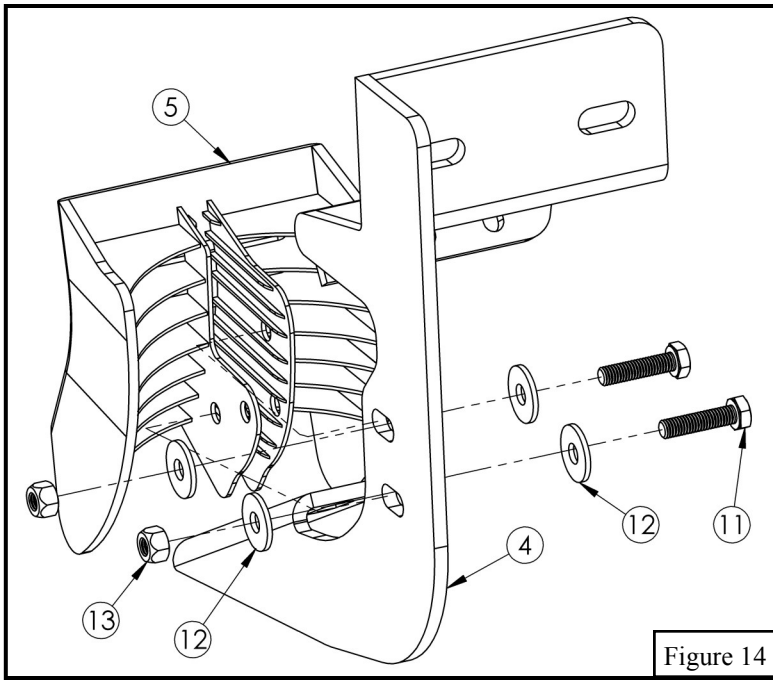

Figure 14
11. Locate (1) plastic bracket cover (Item 5) and loosely secure it to the (6) brackets using the provided hardware: (2) M6 hex head bolts, (4) large M6 flat washers, and (2) M6 nylon lock nuts (Items 11-13). Repeat for every bracket. **See Figure 14.**